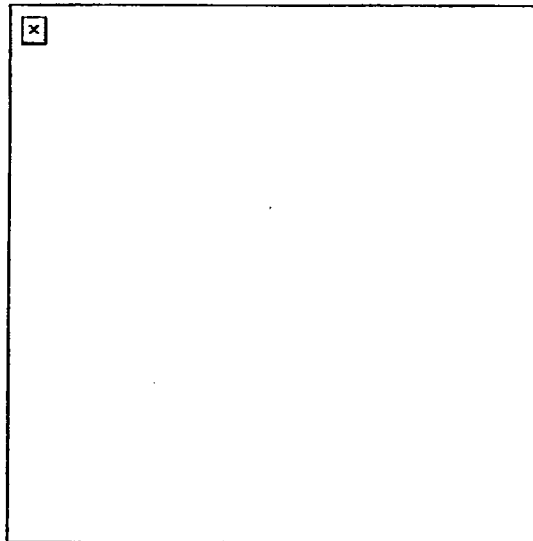

Figure 4. Installation of the MK64 gun mount.
2. Mount the MK64 gun mount (Figure 4).